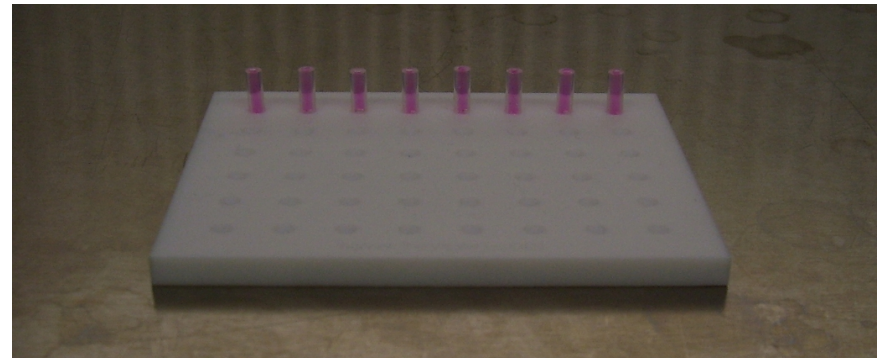

Figure 2. AngioRack™ containing filled angioreactors.
5. Prepare to fill angioreactors. Angioreactors must be kept chilled on ice prior to filling, whether inside microtubes or situated in an AngioRack™. Place angioreactors in the AngioRack™. Add 20 μ l of BME with or without modulating factors to each angioreactor using a pre-chilled, sterile gel-loading tip; see Figure 1. Be careful not to introduce bubbles into the angioreactor. One tube will fill eight angioreactors; see Figure 2.